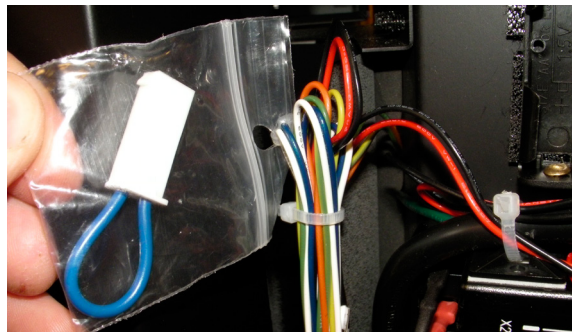

Figure 18.
2). Remove the bag containing the Jumper Cable from the wiring harness connected to the controller as shown in Figure 18.